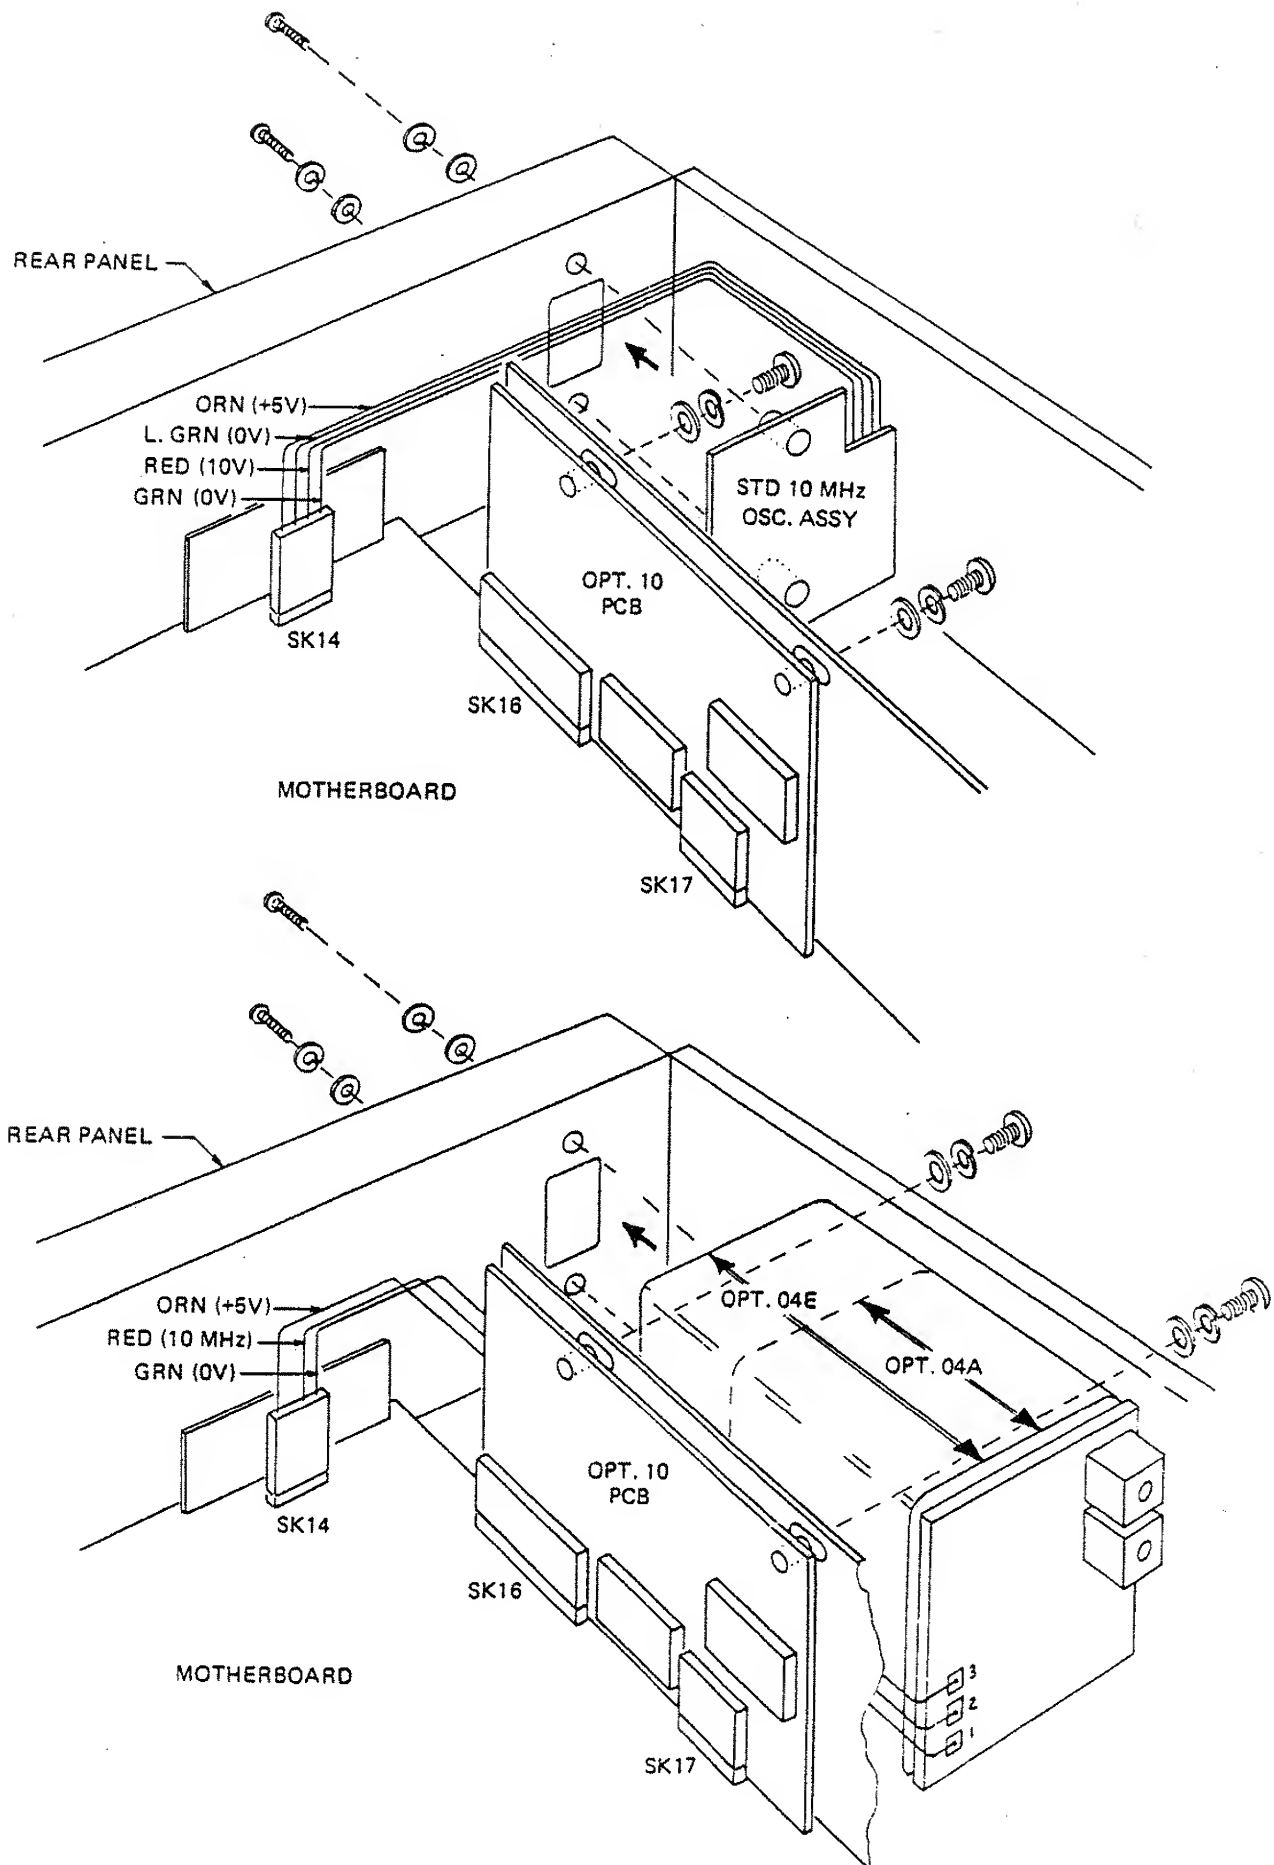

Figure 2.7 - Options 04 A /04 E and 10 Installation
2.6.1.1 Refer to Figure 2.7 for these procedures. The installation package includes:
2.6.2.1 Refer to Figure 2.7 for this procedure. The installation package includes: